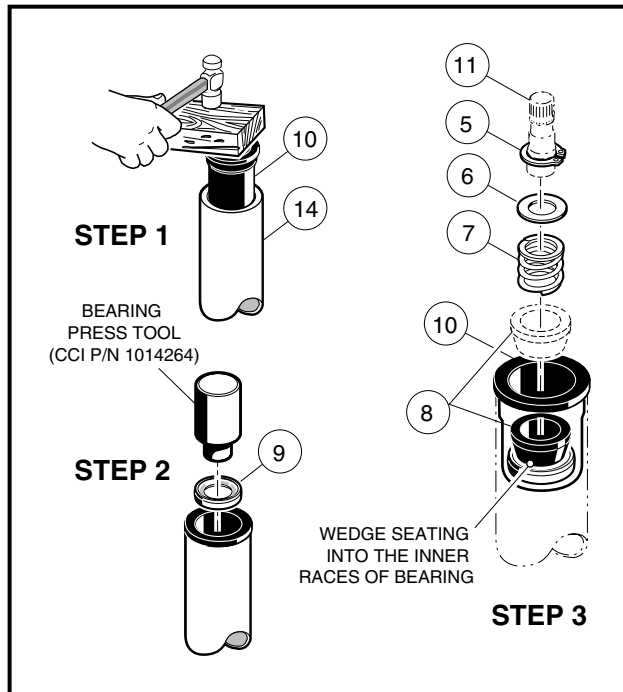
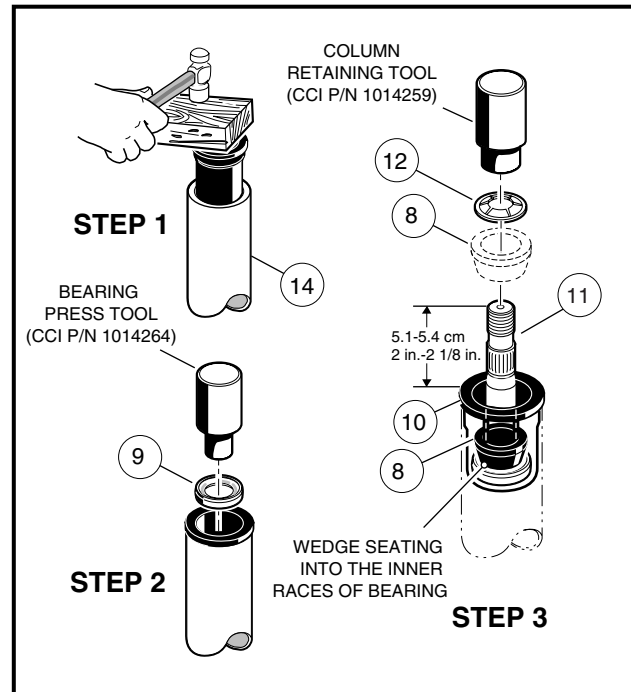

Figure 7-5 Steering Shaft – Bottom End
Figure 7-6 Steering Shaft – Top End
1. Insert bearing seat (10) into both ends of steering tube (14). Place a block of wood on bearing seat and tap lightly on block until bearing seat (10) is fully seated in steering tube (14) (**Figure 7-5, Page 7-5 and Figure 7-6, Page 7-5**).
2. Press the bearing (9) all the way into the bearing seat (10) using a steering column bearing press tool (CC 1014264) or a metal tube approximately six inches (15.2 cm) long with a maximum outer diameter of 1-3/16-inches (3.3 cm) and a minimum inside diameter of 7/8-inch (2.2 cm). Be sure the bearing is installed in the bearing seat as shown (**Figure 7-5, Page 7-5**) so the wedge (8) will ride against the inner race of the bearing.
3. Install the wedge (8), spring (7), washer (6) and snap ring (5) onto the bottom end of the steering shaft (11) (**Figure 7-5, Page 7-5**).
5. Turn the assembly over and place the shaft (11) on a bench. Install the wedge (8) and retaining ring (12) onto the top of the shaft. Be sure the prongs on the retaining ring face up and away from the wedge. Use a steering column retaining ring tool (CC 1014259) to seat the retaining ring to the proper depth. Support end of tube while pressing. If you do not have the recommended tool, use the same tube as was used in step 2 to press the retaining ring onto the top of the shaft. The retaining ring should be pressed onto the shaft until 2 to 2-1/8-inches (5.1-5.4 cm) of the shaft extends from the top of the bearing seat in the steering tube (**Figure 7-6, Page 7-5**).